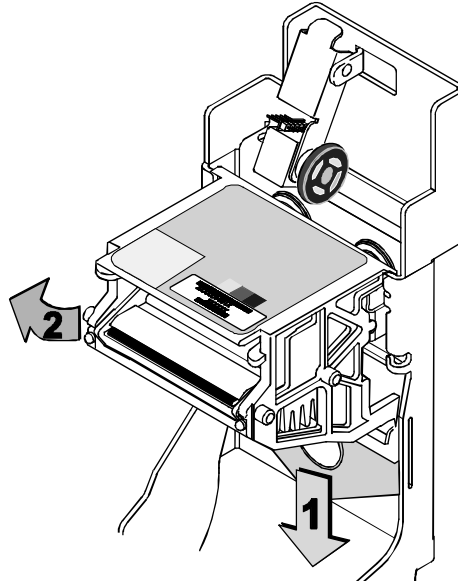

Figure 4-10: Printhead cartridge latch lever
- 4 Press down on the green printhead cartridge latch to release the printhead (step 1 in Figure 4-10).
- 5 Lift the printhead cartridge up and off the swing arm (step 2 in Figure 4-10).